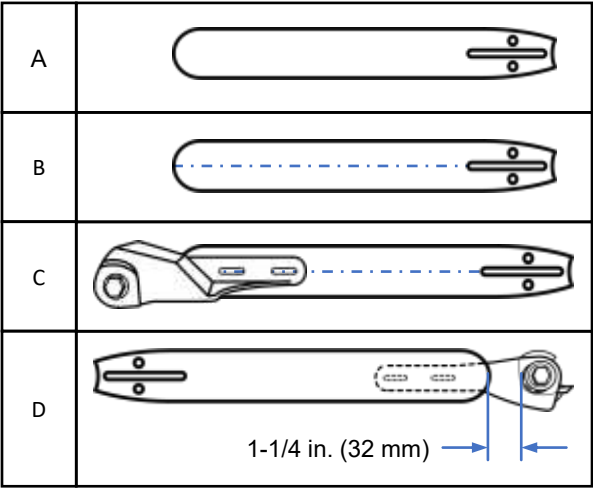

Fig. 2
- Follow the instructions in your chainsaw manual to remove the chainsaw bar (Fig. 2 - A).
- Place the bar on a flat surface. Use a straight-edge and awl to scribe a centerline down the length of the bar (Fig. 2- B).
- Place the attachment onto the bar and line up the center of the two slots on the Frame Body (#10) with the scribed line (Fig. 2 –C).
- Ensure there is a gap of approximately 1-1/4 in. (32 mm) between the end of the bar and the Sprocket (#8) on the attachment as shown in Fig. 2-D)